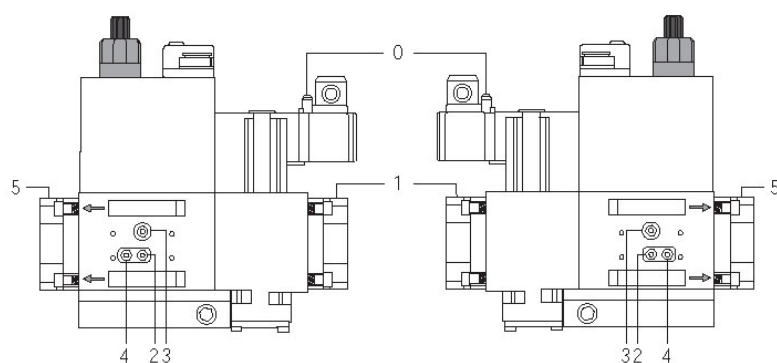
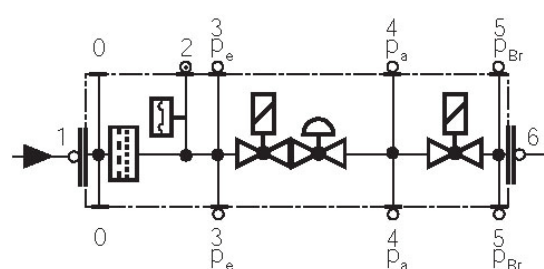

Fig. 30
Fig. 31
- Change the filter if the pressure difference between pressure connection 1 and 2 (Fig. 30-Fig. 31) $\Delta p > 10$ mbar.
- Change the filter if the pressure difference between pressure connection 1 and 2 (Fig. 30-Fig. 31) is twice as high compared to the last check.